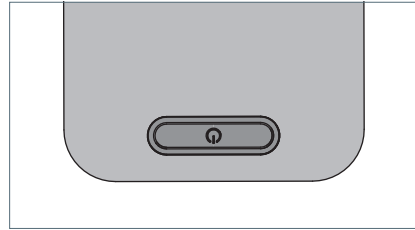

Fig. 5: Switch.
- ▶ Press the switch, see Fig. 5.
- ▶ Press the switch and keep it depressed, see Fig. 5.